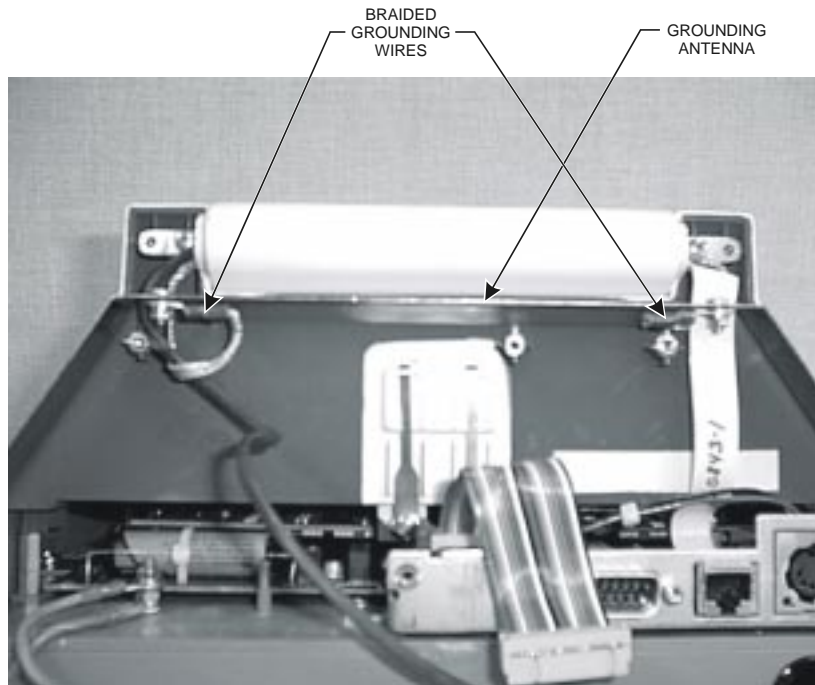

Figure 5-3 Braided Grounding Wire and Grounding Antenna Location
5. Remove the display's braided grounding wires and corresponding hardware from the grounding antenna. (**NOTE:** It is very important to replace the hardware exactly as originally assembled.) (See figure 5-3).
2. Reattach the display's braided ground wires to the grounding antenna. (See figure 5-3.)
4. Remove the display's braided grounded wires and corresponding hardware from the grounding antenna. (Prior to disassembly, note the hardware location because it is very important to replace the hardware exactly as originally assembled.) (See figure 5-3.)